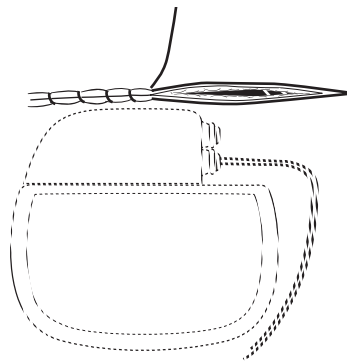

FIGURE 5
- Close the IPG pocket incision. The IPG should be positioned away from the pocket incision suture line (see Figure 5).